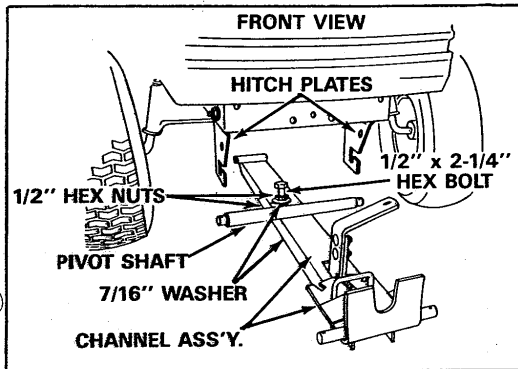

FIGURE 6
2. Assemble one 1/2" x 2-1/4" hex bolt into slotted hole in channel assembly, (see figure 6) with one 1/2" hex nut and one 7/16" standard washer on top side and one 1/2" hex nut and one 7/16" standard washer under channel. **Do not tighten at this time.**
3. Assemble channel assembly to front of tractor as shown in figures 6 and 7.